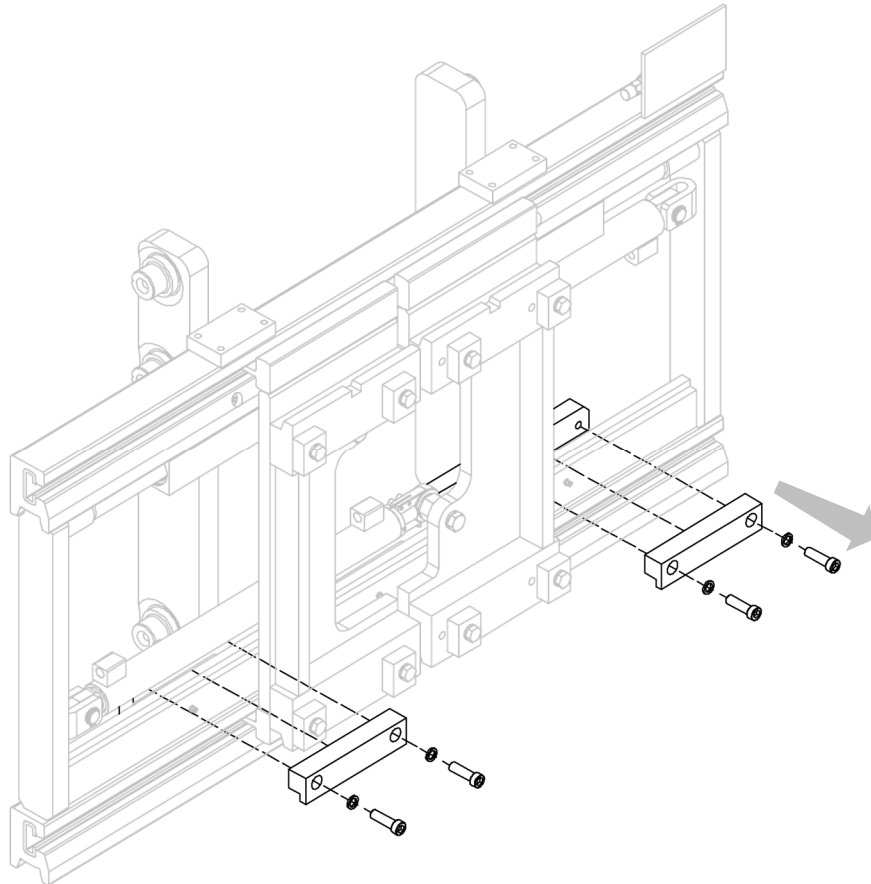

Figure 31
2. Remove the lower couplings that hold the front structure to the rear one (see *Figure 31*).